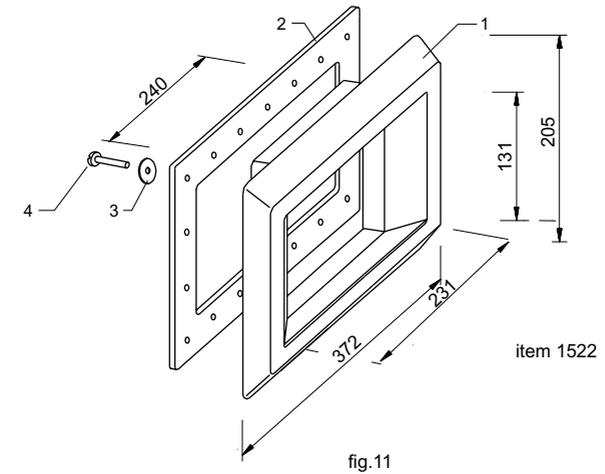

fig.11
2.4 Pool wall lead-in, ABS white, (Item 1522) (Fig 11) for V20 and VS30 skimmers